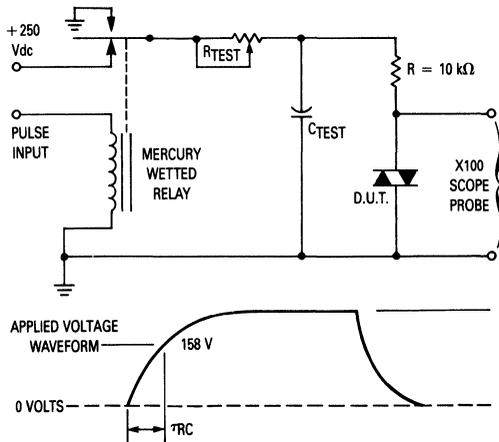

Figure 7. Static dv/dt Test Circuit
2. This is static dv/dt. See Figure 7 for test circuit. Commutating dv/dt is a function of the load-driving thyristor(s) only.